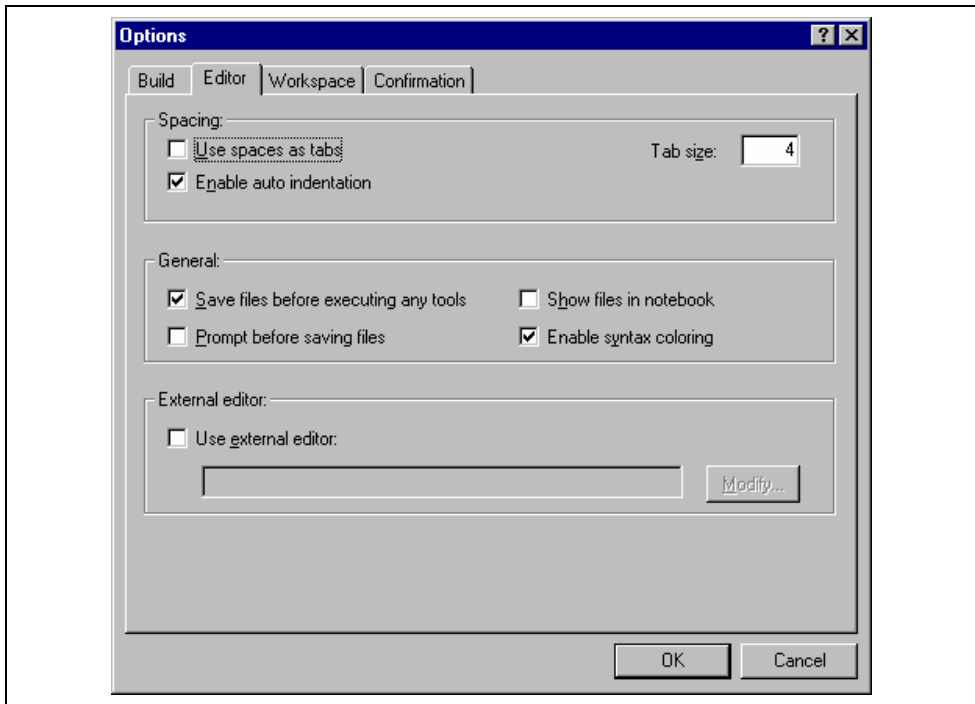

Figure 4.7: Options Dialog Editor Tab
1. Select **[Tools->Options...]**. The “Options” dialog will be displayed. Select the “Editor” tab (figure 4.7)).
1. Select **[Tools->Options...]**. The “Options” dialog will be displayed. Select the “Editor” tab (figure 4.7).